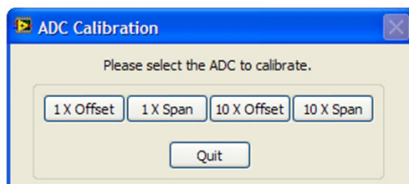
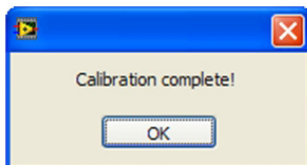

Figure 6.4
Figure 6.6
3. Click on the "Analog to Digital Converter" button of the GUI Calibration window. This opens up a window as shown in Figure 6.4.
- Click "OK" to let the software perform calibration. Upon completion, the software displays the screen as shown in Figure 6.6. Click "OK" to go to the ADC calibration screen, as shown in Figure 6.4.
- Click "OK" to let the software perform calibration. Upon completion, the software displays the screen as shown in Figure 6.6. Click "OK" to go to ADC calibration screen, as shown in Figure 6.4.
- Click on the "Analog to Digital Converter" button of the GUI Calibration window. This opens up a window as shown in Figure 6.4.
9. Click “OK” to let the software perform calibration. Upon completion, software displays the screen as shown in Figure 6.6. Click “OK” to go to ADC calibration screen, as shown in Figure 6.4.